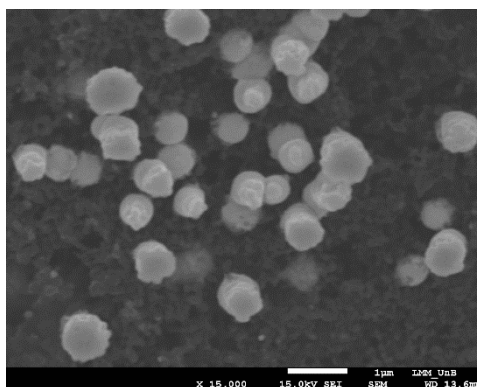
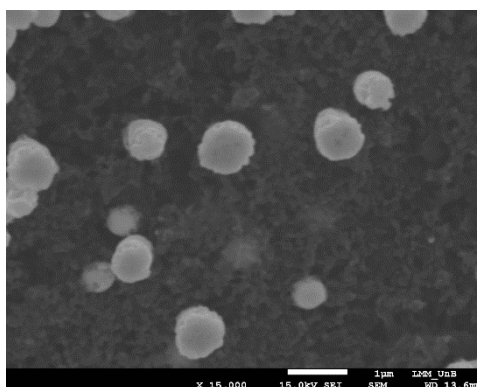

Figure S1. SEM image of the FA160300
Figure S2. SEM image of the FA160300
- Image of the FA160300 (Figure S1) electrode that presented the biggest crystallite size. As can be observed, the structure of the Pt particles is similar to the FA120200.
- Image of the FA160100 (Figure S2). As in Fig. S1, the structure resembles to Fig. S1 and FA120200.